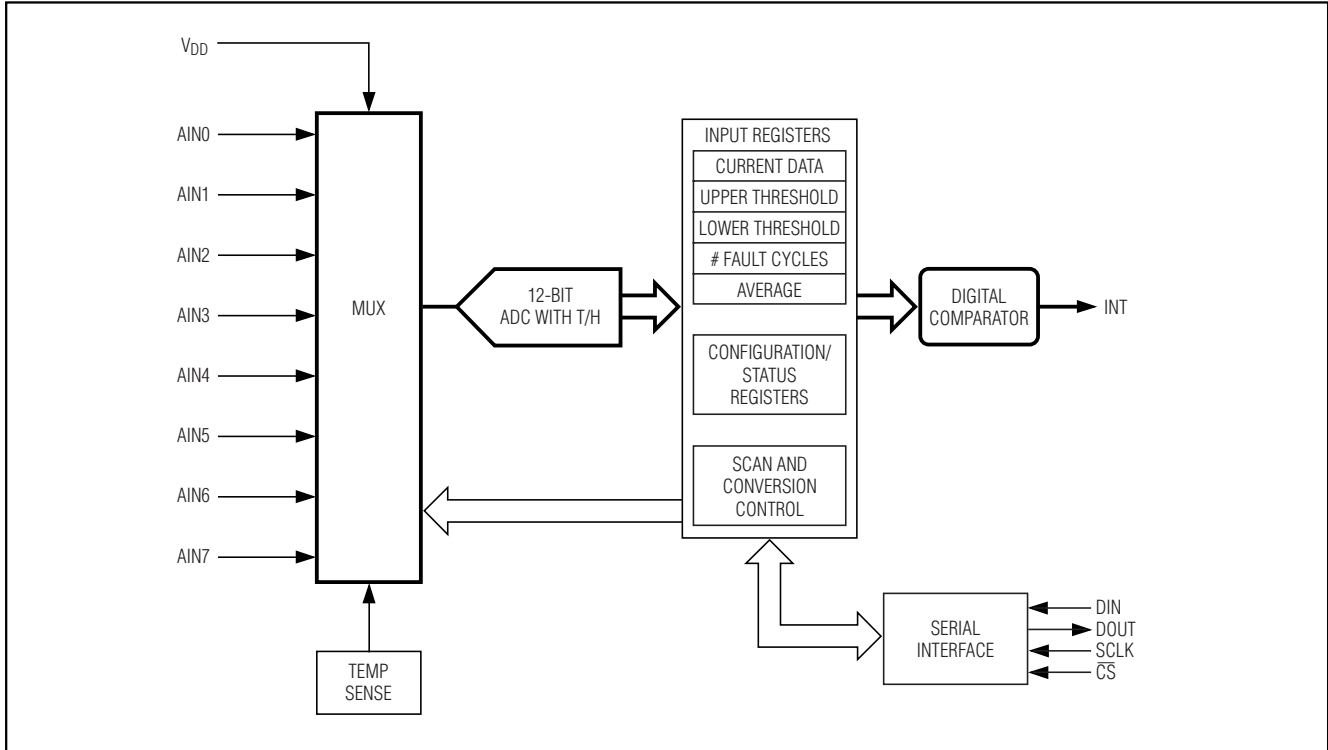

Figure 3. Simplified Alarm Block Diagram of the MAX1253/MAX1254
- Note 6:** See Figure 3 and the Sampling Error vs. Input Source Impedance graph in the *Typical Operating Characteristics* section.
The MAX1253/MAX1254 are precision-monitoring integrated circuit systems specifically intended for stand-alone operation. They can monitor diverse types of inputs, such as those from temperature sensors and voltage signals from pressure, vibration, and acceleration sensors, and digitize these input signals. The digital values are then compared to preprogrammed thresholds and, if the thresholds are exceeded, the processor is alerted by an interrupt signal. No interaction by the CPU or microcontroller ( $\mu\text{C}$ ) is required until one of the programmed limits is exceeded (Figures 3 and 4).